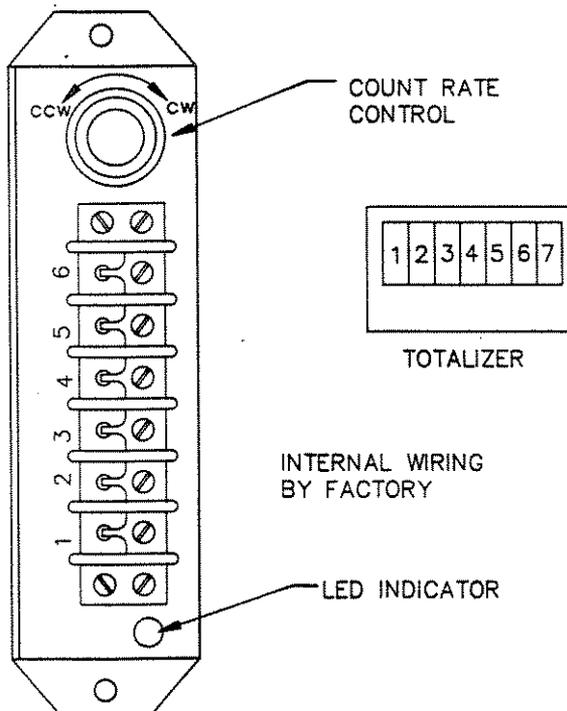

Figure 6-9
- D. Check the LED on the integrator. See Figure 6-9. If the LED is flashing approx. every 3 sec., the totalizer is defective and should be replaced.
voltage across the integrator terminals 4 and 6 with a DC voltmeter. See Figure 6-9. The input voltage should be 45 ± 5 Vdc. If the input voltage is correct, return the integrator to the factory for repair. If the input voltage is not correct, check the power supply. See Section 6.4.